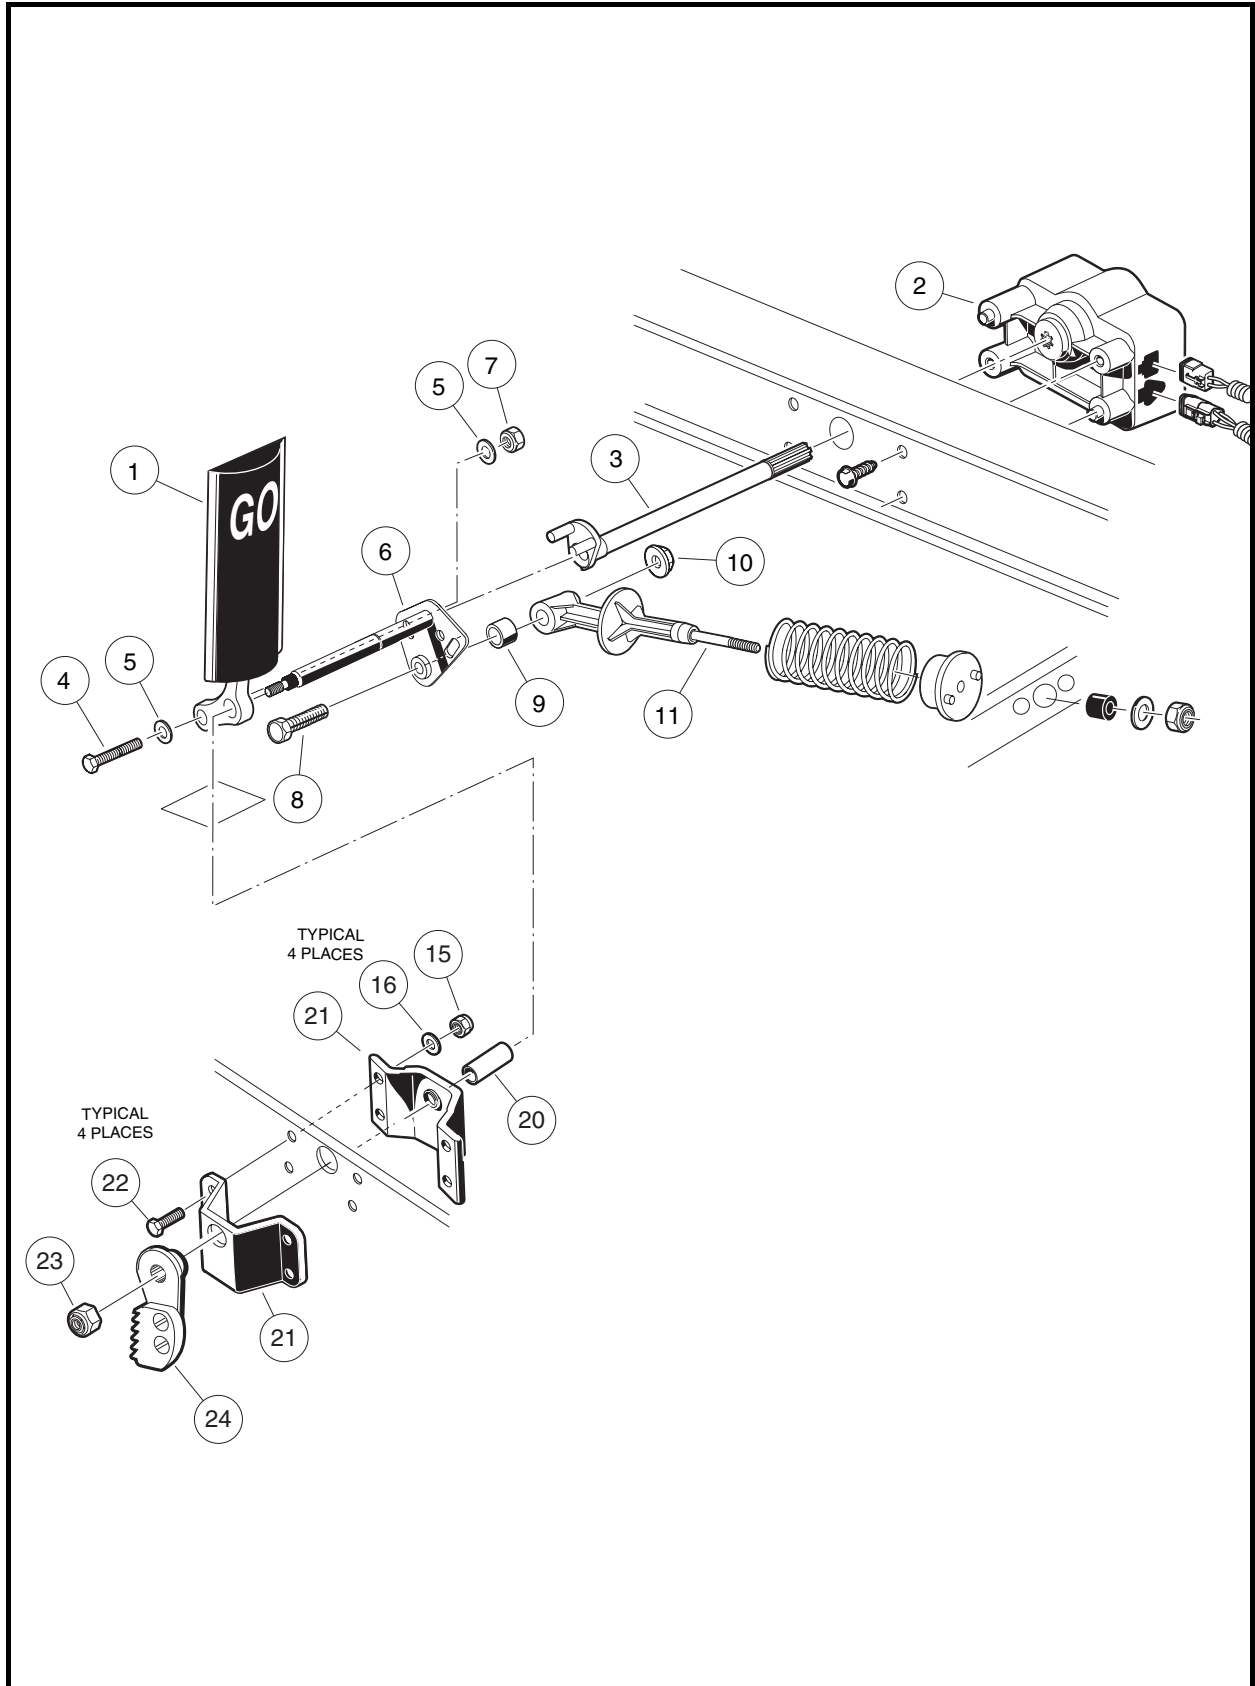
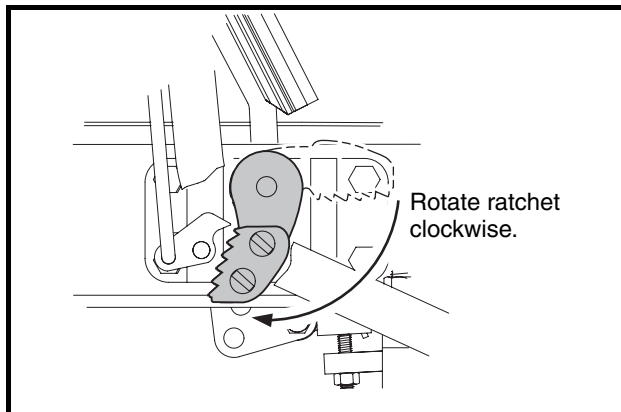

Figure 5-7 Accelerator Pedal – Electric Vehicle
Figure 5-8 Ratchet Installation
3. Remove the MCOR (2) and drive bar (3) as instructed (**Figure 5-7, Page 5-9**). See **MCOR Removal, Section 19, Page 19-5.**
4. Use a 9/16-inch socket and 9/16-inch wrench to remove the nut (7), two washers (5), and bolt (4) securing the accelerator pedal (1) to the pivot rod (6) (**Figure 5-7, Page 5-9**).
5. Remove the nut (10) and bolt (8) from the accelerator pivot rod assembly (6).
6. Slide the spring retainer (11) off of the accelerator pivot rod.
7. Inspect the pivot support bearing (9) for wear and replace if necessary.
8. Use a marker to mark the position of the park brake ratchet (24) on the accelerator pivot rod (6). See following **NOTE.**
9. Remove the lock nut (23) from the accelerator pivot rod (**Figure 5-7, Page 5-9**).
10. Press the brake pedal slightly and slide the park brake ratchet (24) toward the end of the accelerator pivot rod. Rotate the ratchet and remove it from the pivot rod.
11. Remove the pivot rod (6) and spacer (20) from the accelerator pivot rod supports (21).
12. Inspect the accelerator pivot rod supports (21) for wear and damage and replace as necessary. If the pivot rod supports do not require replacement, loosen (but do not remove) the four bolts (22) and lock nuts (15) to make installation of the pivot rod easier.
13. Remove the accelerator pedal (1) from the vehicle.
1. If the accelerator pivot rod supports were replaced, position the supports (21) on the vehicle frame and install the four bolts (22), flat washers (16), and lock nuts (15) (**Figure 5-7, Page 5-9**). Finger-tighten hardware at this time.
2. Insert the lower end of the accelerator pedal (1) through the floorboard and install the accelerator pivot rod (6) through the uppermost hole in the pedal.
3. Install plastic spacer (20) on pivot rod (6).
4. Insert the pivot rod through the pivot rod supports (21) on the vehicle frame.
5. Tighten the four bolts (22) attaching the pivot rod supports to the frame to 75 in-lb (8.5 N·m).
6. Insert the bolt (4), with washer (5), through the lower hole in the pedal and through the pivot rod. Secure with washer (5) and new lock nut (7). Finger-tighten lock nut at this time.
7. Install the bolt (8) through the pivot rod (6) and spring retainer (11). Secure these parts with the nut (10). Tighten the nut to 50 in-lb (5.5 N·m).
8. Press the brake pedal slightly, and with the park brake ratchet oriented so that the tip of the ratchet is pointed toward the rear of the vehicle, slide the ratchet onto the pivot rod (do not slide the ratchet onto the pivot rod splines). Release the brake pedal and allow the ratchet to rotate until its tip is pointed downward (**Figure 5-8, Page 5-10**). The ratchet should now rotate freely on the rod.
11. Install lock nut (23) on pivot rod (**Figure 5-7, Page 5-9**). Tighten to 18 ft-lb (24.5 N·m).
12. Install the MCOR (2) and drive bar (3) as instructed. **See MCOR Installation, Section 19, Page 19-5.**